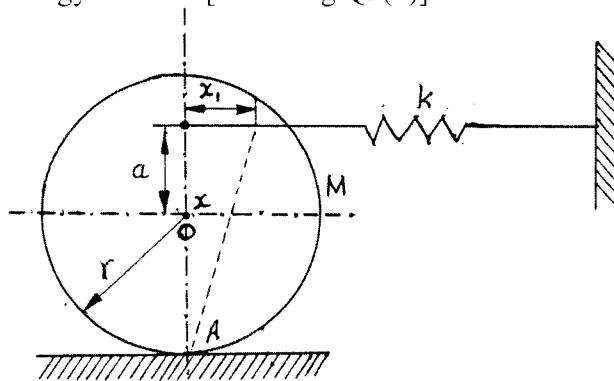

Fig.Q3(b)
- b. A circular disc of 5 kg mass, 100 mm radius is held by a spring of constant 200 N/m at the distance of 50 mm from the centre and rolls on a smooth horizontal plane. Find the natural frequency of the system by energy method. [Refer Fig.Q3(b)]